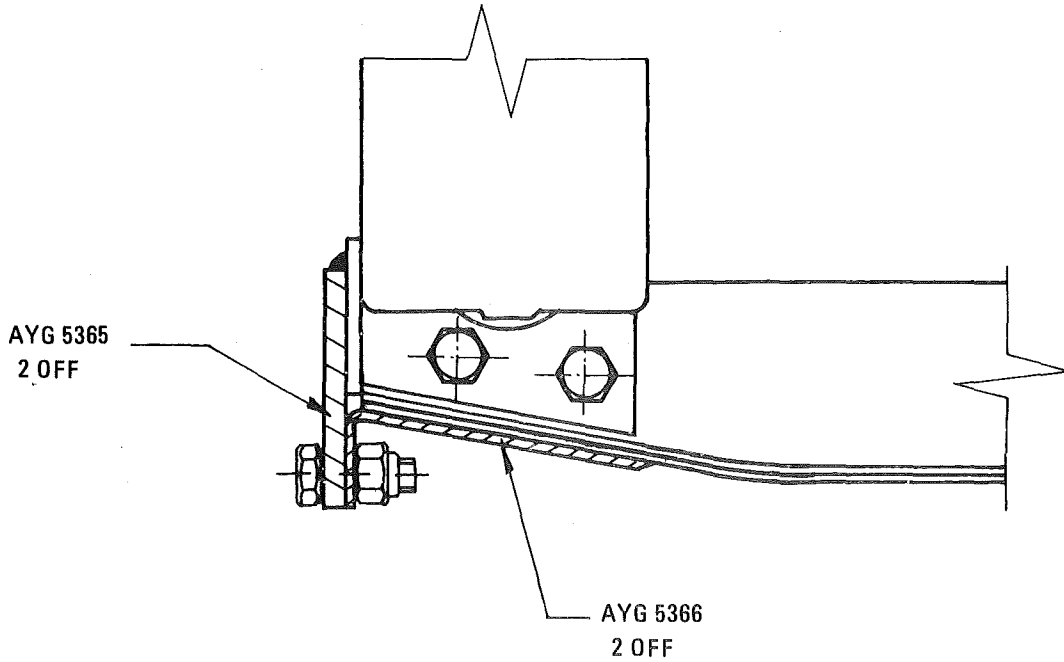

FIG 1 - METHOD OF FIXING PLATES
- k. Remove the four (4) nylock nuts from the transmission crossmember attachment bolts, to prevent damage during the welding operation.
- l. Using slave bolts and nuts instead of bolts, item 4 from Table 1, and nuts, item 5, join plates, items 2 and 3 as shown in Fig 1.
- n. Clamp the plates in position, ensuring that they are centrally located in relation to both crossmember and chassis (see Figs 1, 2 and 3).